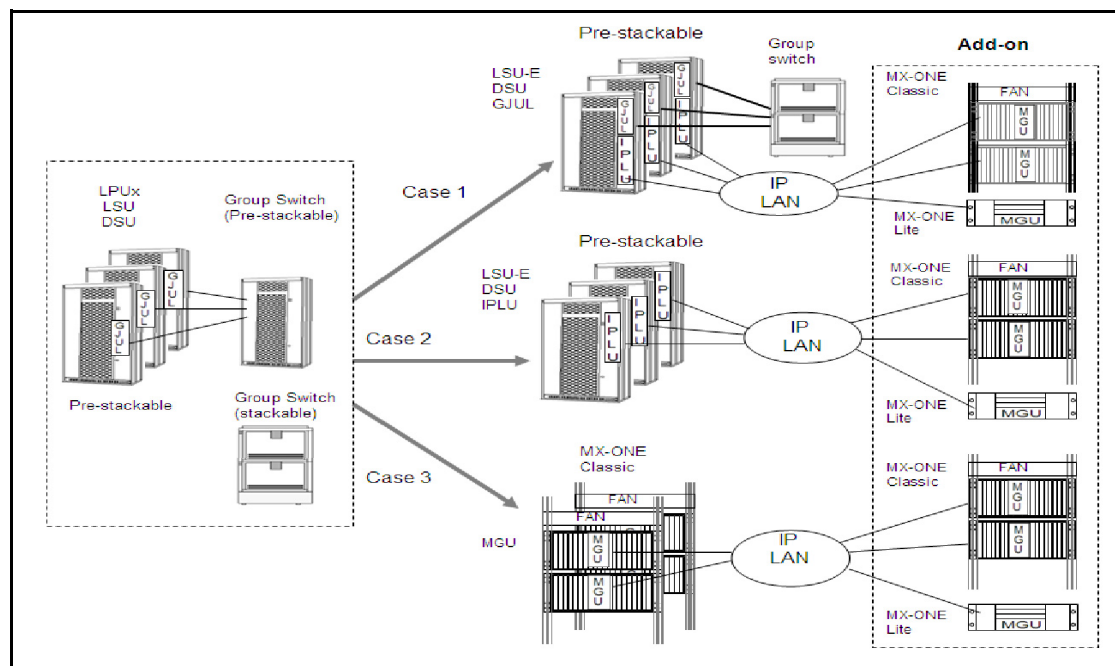
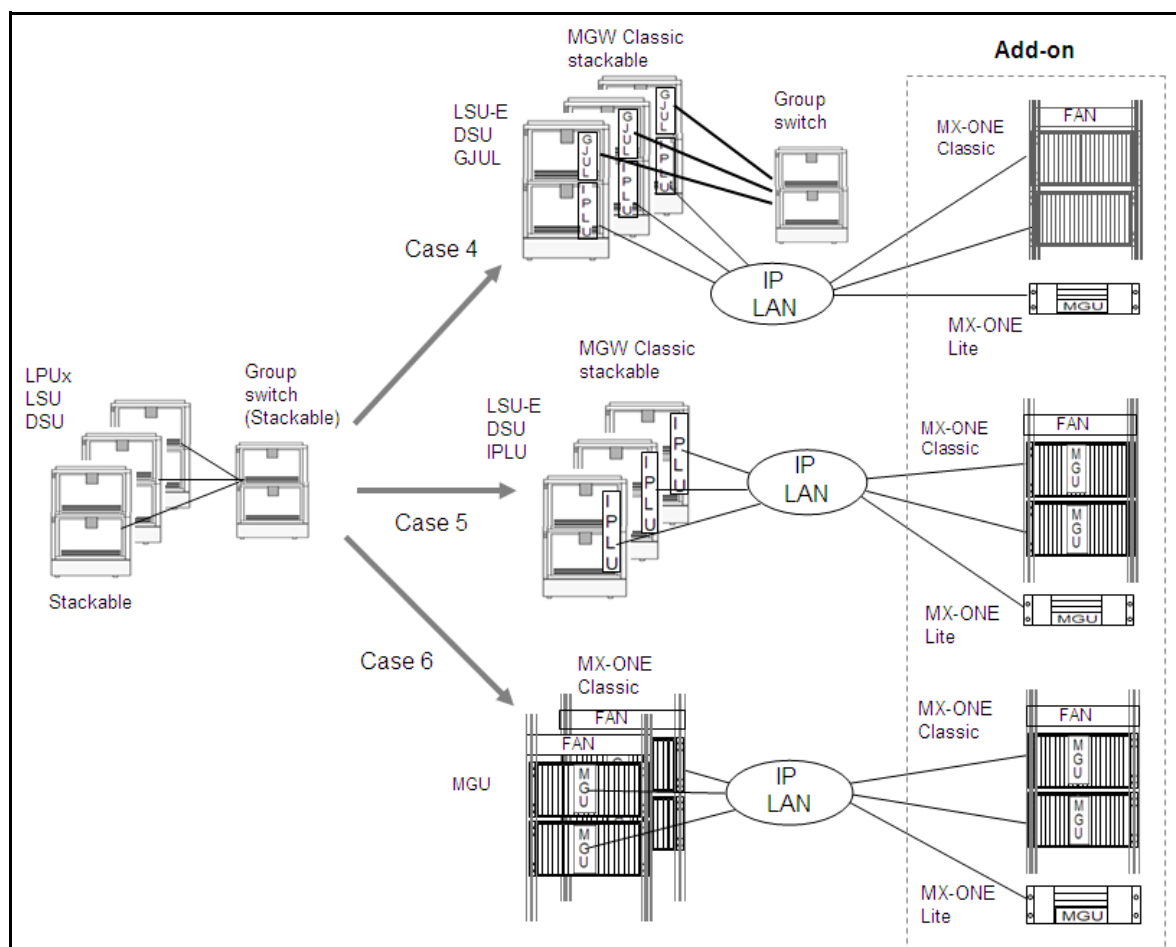
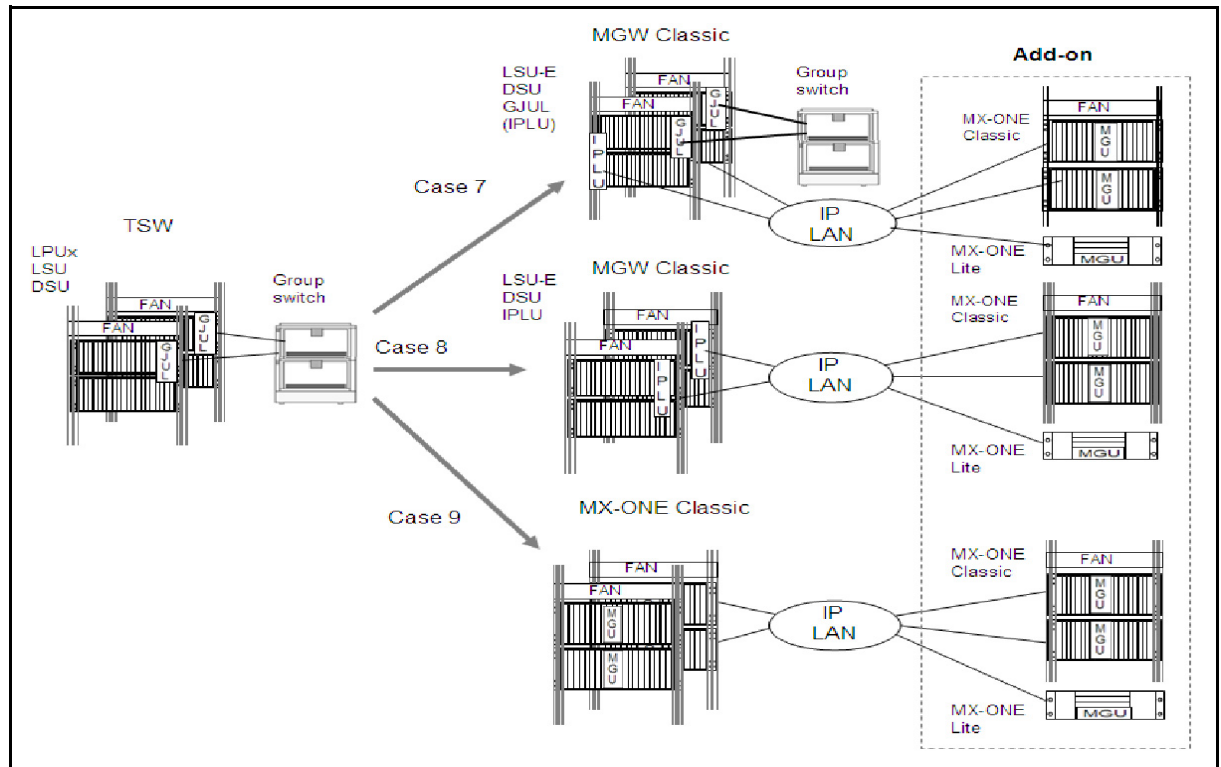

Figure 2: Migrating pre-stackable building practice to MX-ONE 6.3
Figure 3: Migrating Stackable building practice to MX-ONE 6.3
Figure 4: Migrating BYB501 building practice to MX-ONE 6.3
- The MD110/Mitel TSW must be in the Stackable or later building practice. For example see Figure 2, Figure 3 and Figure 4.
- Pre-stackable HW is not permitted in MX-ONE 6.3. Move extensions on this old HW to more modern HW. For example see Figure 2, Figure 3 and Figure 4.